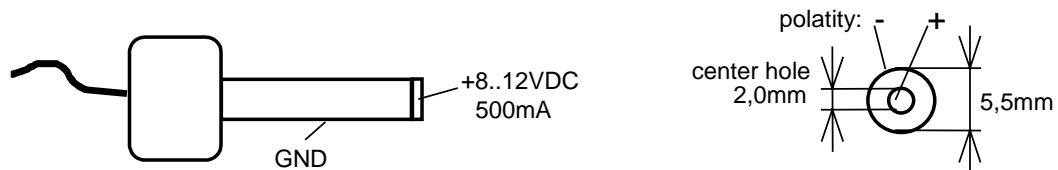

Figure 3: Power Connector
- Using the included power adapter, connect the power socket on the board (P3) to a power supply (refer to *Figure 3* for the right polarity).